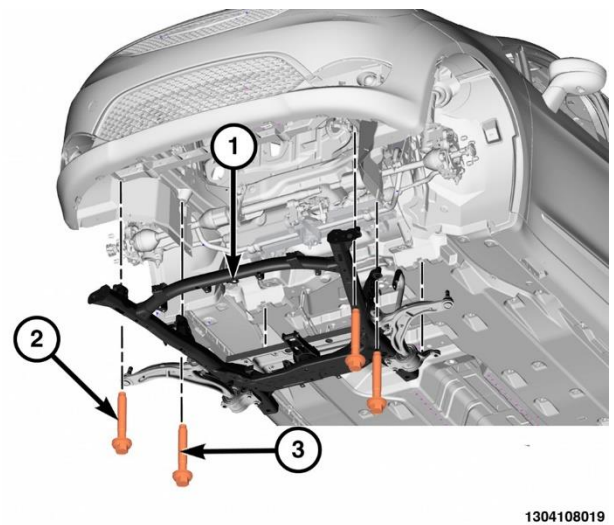

Figure 51 – Crossmember Bolts
76. Remove and **DISCARD** the crossmember bolts (2 and 3) then allow the crossmember assembly (1) to hang from the suspension components (Figure 51).